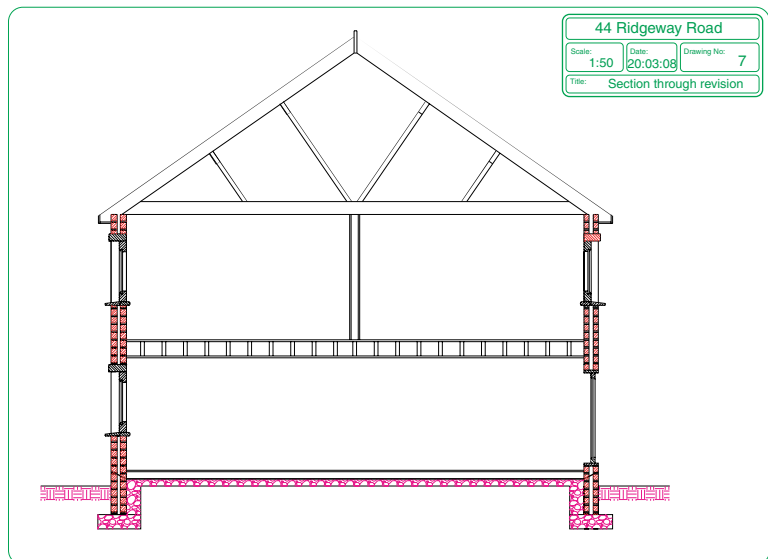

Fig. 12.7 A section through the proposed extension
7. A sectional view through the proposed extension, drawn to a scale of **1:50** (Fig. 12.7).